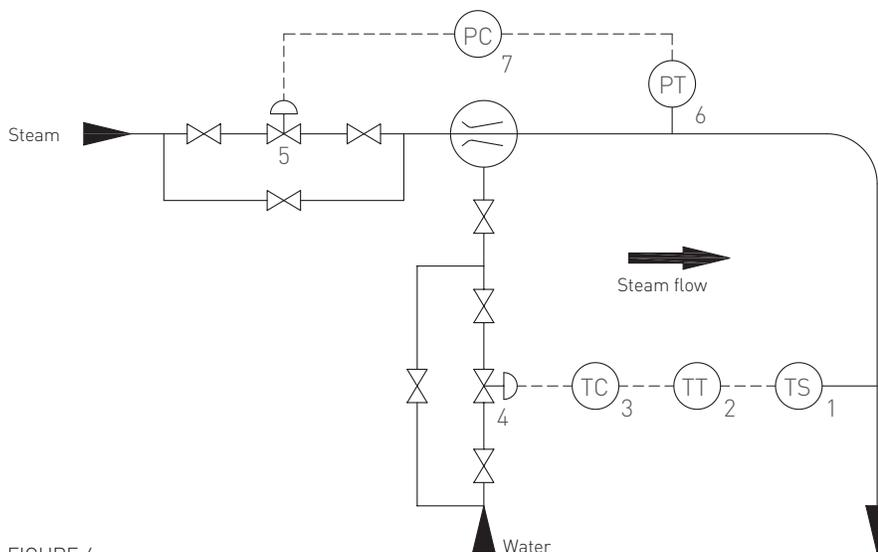

FIGURE 4
The Ven-Temp Desuperheater may be installed after a pressure reducing valve (5). As the pressure transmitter (6), controller (7) are behind the Ven-Temp Desuperheater this increases the available pressure drop hence the turndown ratio (see Figure 4).